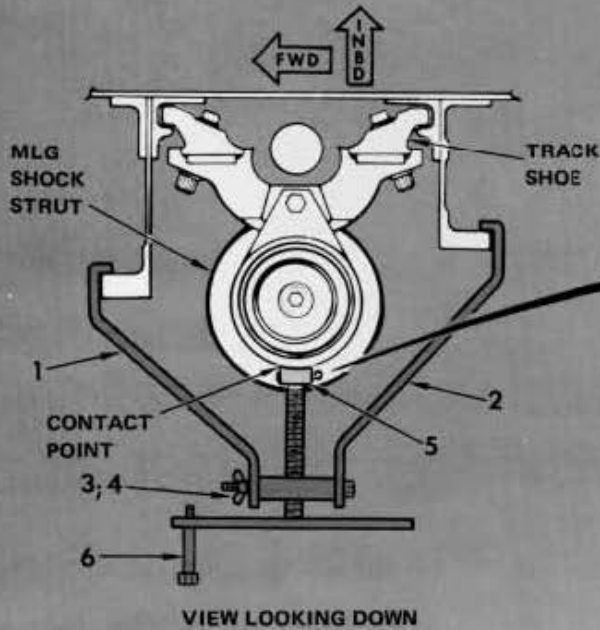

Figure 2
The modulating valve consists basically of a butterfly, a butterfly actuating shaft, two diaphragms, and a spring (Figure 2). Both diaphragms are mounted on the butterfly actuating shaft, but are separated into two separate chambers so that they tend to oppose one another. Control air No. 1 acts against the smaller of the two diaphragms, moving the butterfly towards the closed position. Control air No. 2 acts against the larger diaphragm and spring tension to move the butterfly towards the open position. A spring is mounted on the butterfly actuating shaft to aid the smaller diaphragm in closing the valve.
. Diaphragm ruptured in shutoff valve. Check for air leaking through the bleed air hole in the ambient portion of the shutoff valve housing (Figure 2).
Position the shop aid so that the screw jack contact block (5) is at least 3 inches from the top of the MLG shock strut (Figure 2).